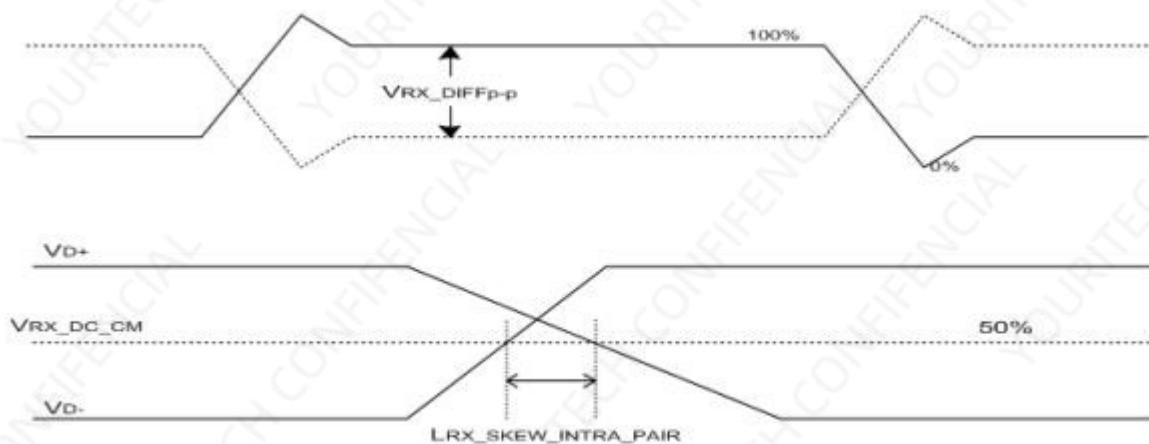

Figure 7. $VRX_DIFFp-p$ & $LRX_SKEW_INTRA_PAIR$
1. Viewing angle is the angle at which the contrast ratio is greater than 10. The viewing angles are determined for the horizontal or 3, 9 o'clock direction and the vertical or 6, 12 o'clock direction with respect to the optical axis which is normal to the LCD surface (see Figure 7).
2. Contrast measurements shall be made at viewing angle of $\Theta = 0$ and at the center of the LCD surface. Luminance shall be measured with all pixels in the view field set first to white, then to the dark (black) state . (see Figure 7) Luminance Contrast Ratio (CR) is defined mathematically.